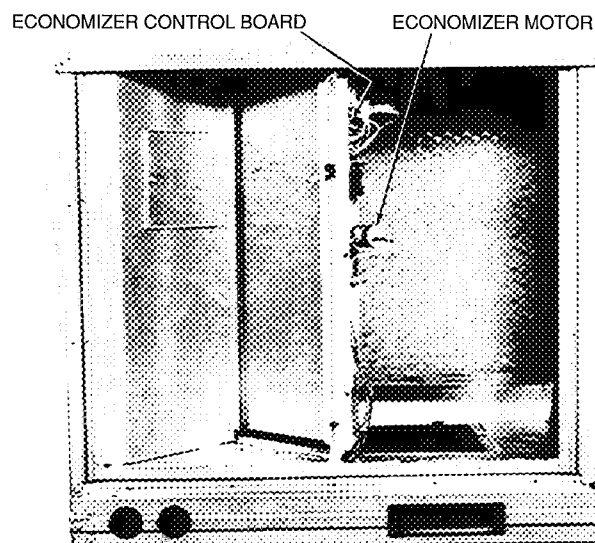

Fig. 18 – Horizontal Economizer Installation (90-Degree Rotation)
- b. Rotate economizer 90 degrees until economizer motor faces condenser section (see Fig. 18). If necessary, disassemble economizer to replace filter.